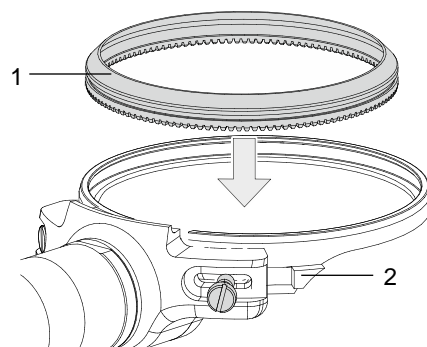

Fig. 7.4 – Inserting blade
- 3) Insert the knife (1) in the knife fixture (2), see Fig. 7.4.